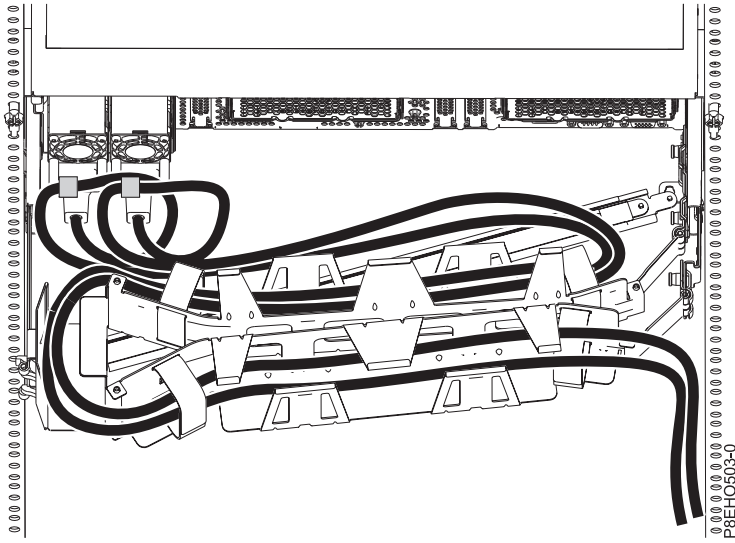
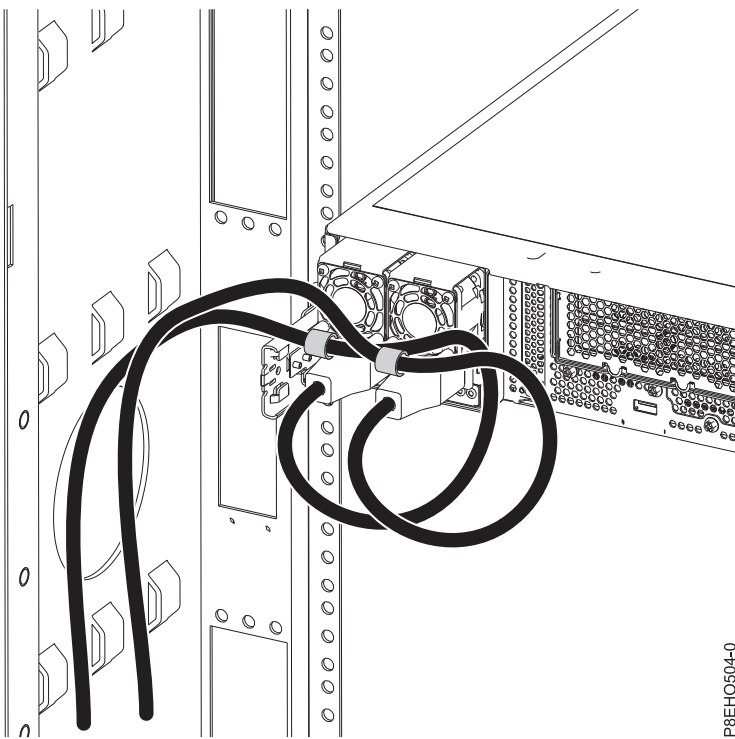

Figure 231. Power cord loop with cable management arm routing. The power cord loops counterclockwise to the right.
Figure 232. Power cord loop with sidewall routing. The power cord loops counterclockwise to the left.
3. Loop and attach the power cords to the power supply handle. Note how the power is looped; be sure to maintain at least a 5 cm (2 in.) diameter loop. You use two types of loops, detailed in Figure 231 on page 214 and Figure 232 on page 214. Use the hook-and-loop fastener to tie the power cord to the power supply handle.